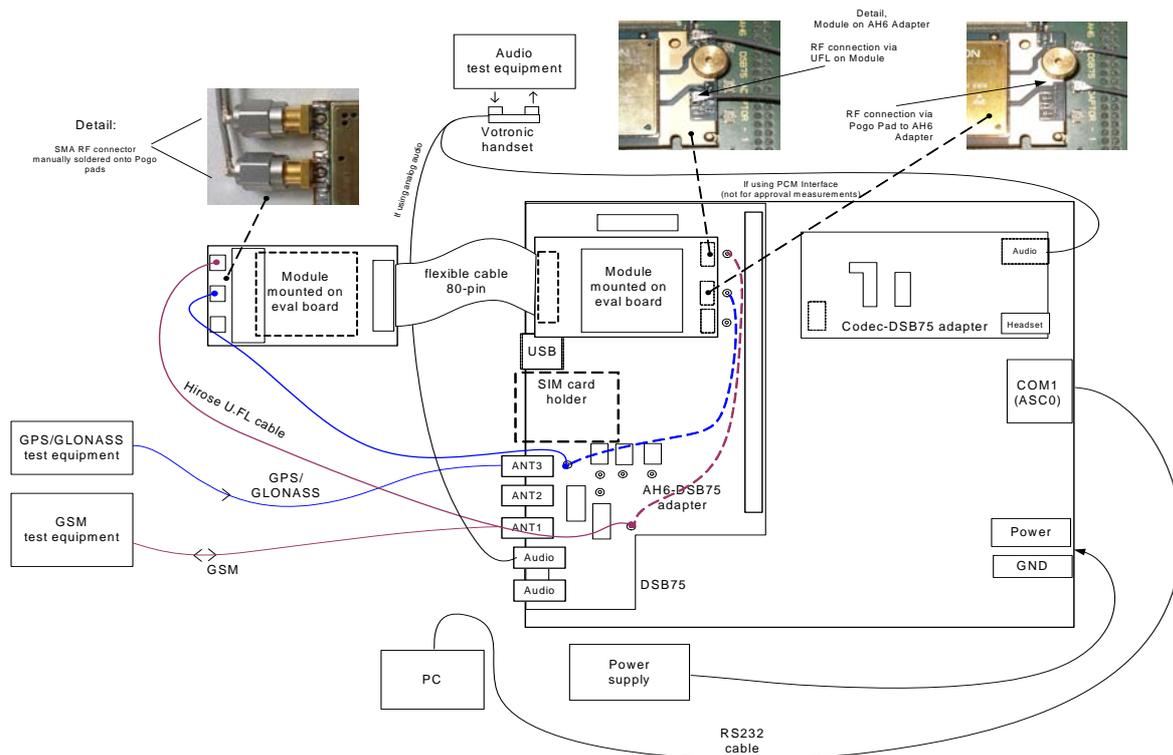

Figure 9: Reference equipment for Type Approval
1. For RF performance tests a mini-SMT/U.FL to SMA adapter with attached 6dB coaxial attenuator is chosen to connect the module directly to the GSM/UMTS/GNSS test equipment instead of employing the SMA antenna connectors on the AGS2-E-DSB75 adapter as shown in Figure 9. The following products are recommended: